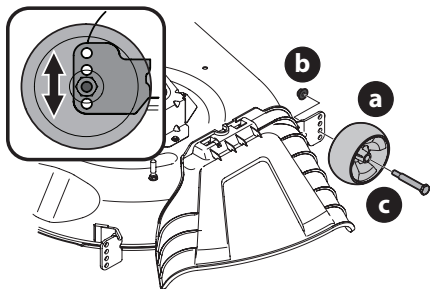

Figure 11
- b. Remove the deck wheels (a) by removing the flange lock nuts (b) and shoulder bolts (c) that secure them to the deck. (Figure 11).